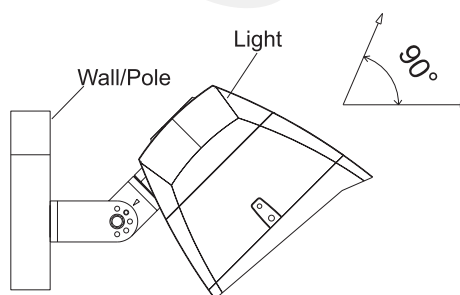

Figure 9
Step 3: Connect the fixture to the bracket and tighten the screws; connect the wires properly. (Figure 9)
Notice: Adjustable angle is 0~+/-90° (Figure 9)